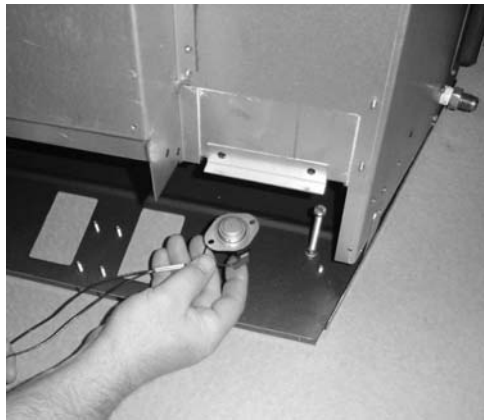

Figure 6
- The snap disc is installed from behind the insert (see Figure 6). Attach the wires labeled “SNAP DISC” to the snap disc and slide it into the snap disc holder.